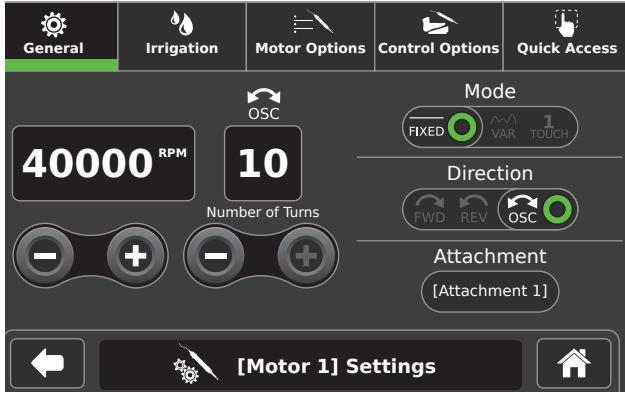

Figure 21 – General (Motor Settings) Screen
2. Adjust settings as necessary (Figure 21).